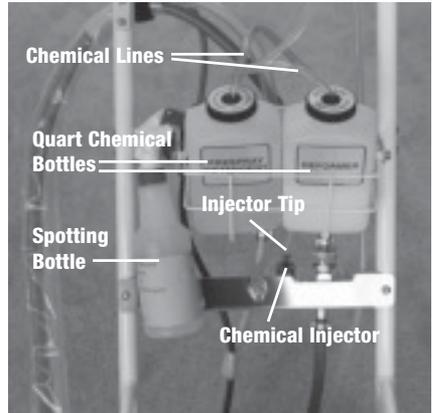

Figure 1: Chemical Injection System
Before operating machine, you must determine the recommended dilution ratio for the traffic lane prespray detergent you'll be using. The machine's prespray system comes preset for High-Flow Prespray. If the dilution ratio of your prespray detergent is different, you must reset your chemical injector (figure 1).
1. Carefully remove chemical line from top of injector (figure 1).
- Defoamer: Fill defoamer bottle (figure 1) with a dilute liquid defoamer.
- Traffic Lane Prespray Detergent: Fill prespray bottle (figure 1) with traffic lane prespray.
- Spotting Bottle (figure 1): Mix 1/4 traffic lane prespray detergent and 3/4 water. Shake well.